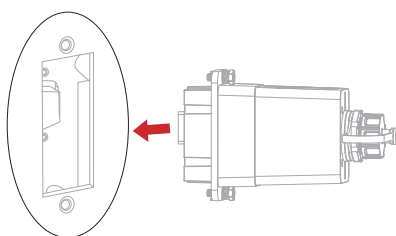

Figure 13b: Insert the Wi-Fi/Ethernet dongle
B. Insert Wi-Fi/Ethernet dongle into the port firmly. (Figure 13b)